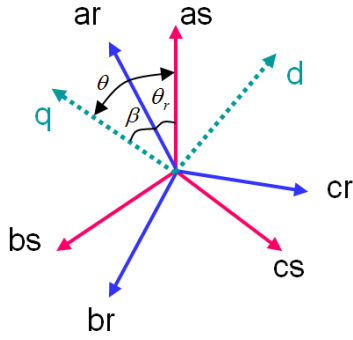

Fig. 2
- (3) Suppose the rotor speed measured on the shaft is 240 rpm. The number of **pole pairs** of this induction machine is 4. Please calculate the value of rotor angular velocity ω_r , to be used in this machine model.
- (4) Observed from Fig. 2 that when $\theta = 90^\circ$, the d-axis is aligned with stator phase-a axis and the q-axis is leading phase-a axis by 90 degrees. Let's fix this qd-frame at this position (let it become stationary). This makes the d-axis now become the alfa-axis and the q-axis is now the beta-axis. Please give the machine stator and rotor voltage equations expressed in this alfa, beta-reference frame. (Please leave the zero component equations for simplicity.)